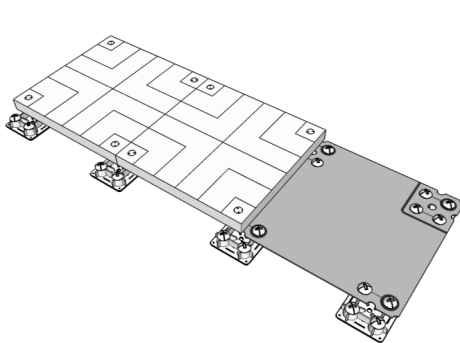

Fig. 22
Continue assembly by locating additional Piers (A) with the Pier Template (F) (Fig. 22 through 25) in the manner previously described in steps 8, 9 & 10.